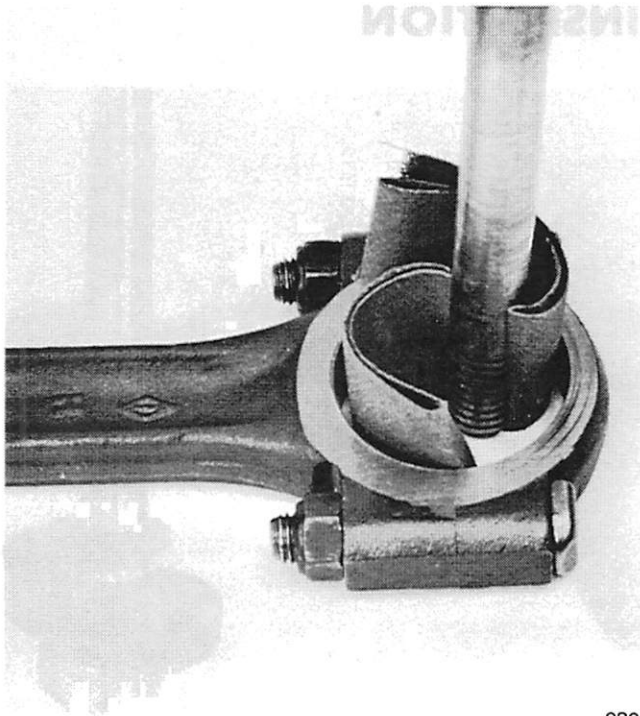

Figure 3. Cleaning Rods
3. If necessary, place rod cap on rod. Using shaft with slit in end, place 320 grit carborundum in slit and clean crankshaft end and piston pin end of rod with drill press. (Figure 3)